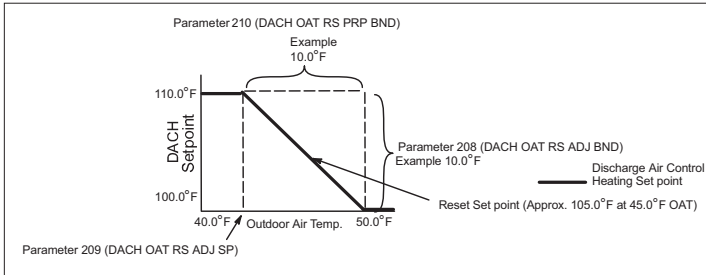

**Figure 47. Discharge Air Control Heating Stages - Default Values Shown**
- Refer to “Figure 47. Discharge Air Control Heating Stages - Default Values Shown” for Discharge Air Control Heating heating stages.